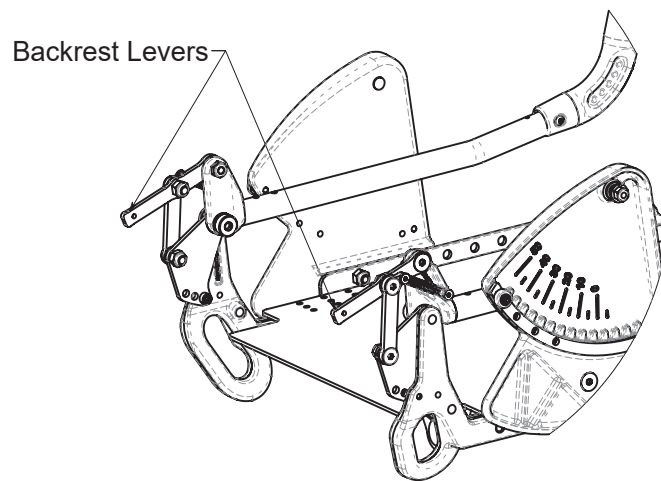

Figure 14.23: Fold-down Backrest
1. To adjust the push bar angle, simultaneously press both plastic push bar buttons located on the top of both backrest posts (see Figure 14.23).